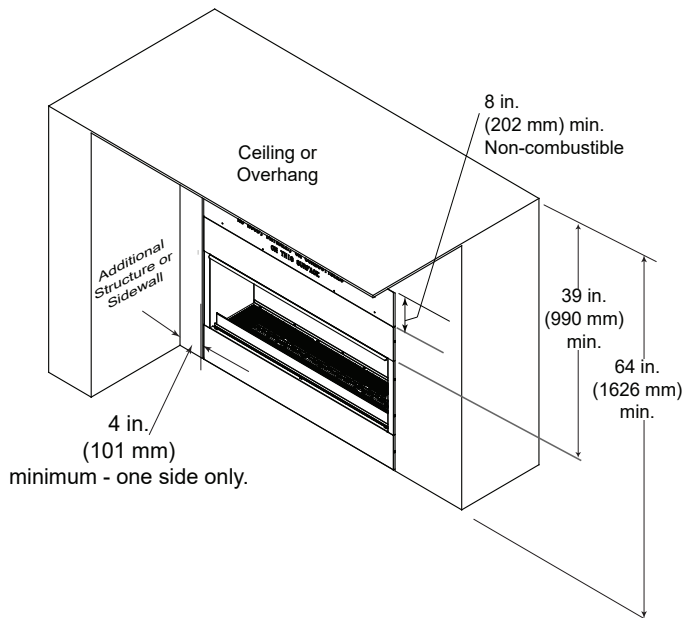

Figure 3.4 Clearances to Combustibles
- Noncombustible wall sheathing material is required 8” above the appliance. (See Figure 3.4)